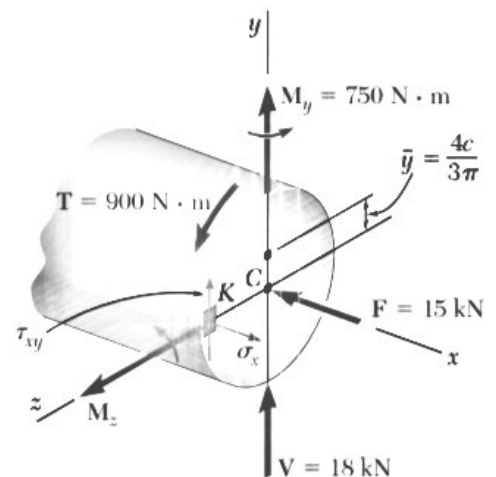

Fig. 8.23
The results obtained are shown in Fig. 8.23.
**a. Normal and Shearing Stresses at Point K.** Each of the forces and couples shown in Fig. 8.23 can produce a normal or shearing stress at point K. Our purpose is to compute separately each of these stresses, and then to add the normal stresses and add the shearing stresses. But we must first determine the geometric properties of the section.
does not produce any stress at K, since K is located on the neutral axis corresponding to that couple. Determining each sign from Fig. 8.23, we write